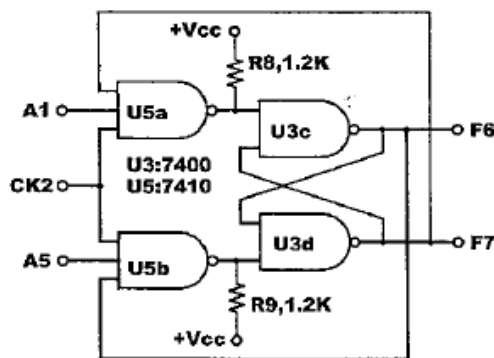

Figure 2.1
1. To construct the circuit shown in **Figure 2.1**, make connections as indicated in **Figure 2.2** on block a. Connect CK2 to A of PULSE A, A1 to SW0, A5 to SW1 and F6 to L1.